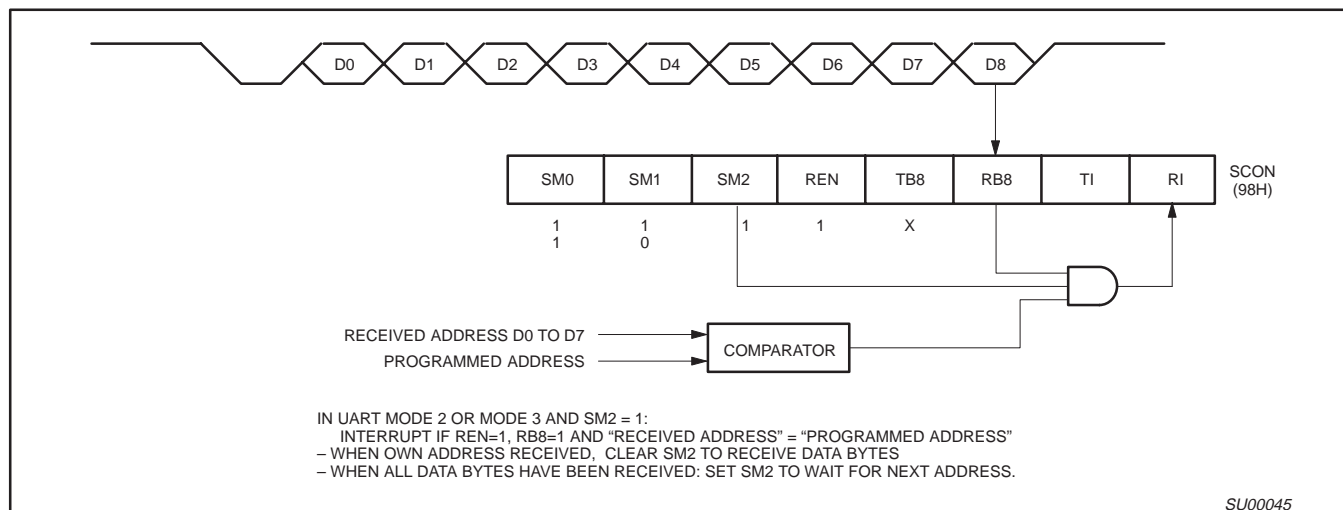

Figure 7. UART Multiprocessor Communication, Automatic Address Recognition
Automatic Address Recognition is a feature which allows the UART to recognize certain addresses in the serial bit stream by using hardware to make the comparisons. This feature saves a great deal of software overhead by eliminating the need for the software to examine every serial address which passes by the serial port. This feature is enabled by setting the SM2 bit in SCON. In the 9 bit UART modes, mode 2 and mode 3, the Receive Interrupt flag (RI) will be automatically set when the received byte contains either the "Given" address or the "Broadcast" address. The 9 bit mode requires that the 9th information bit is a 1 to indicate that the received information is an address and not data. Automatic address recognition is shown in Figure 7.